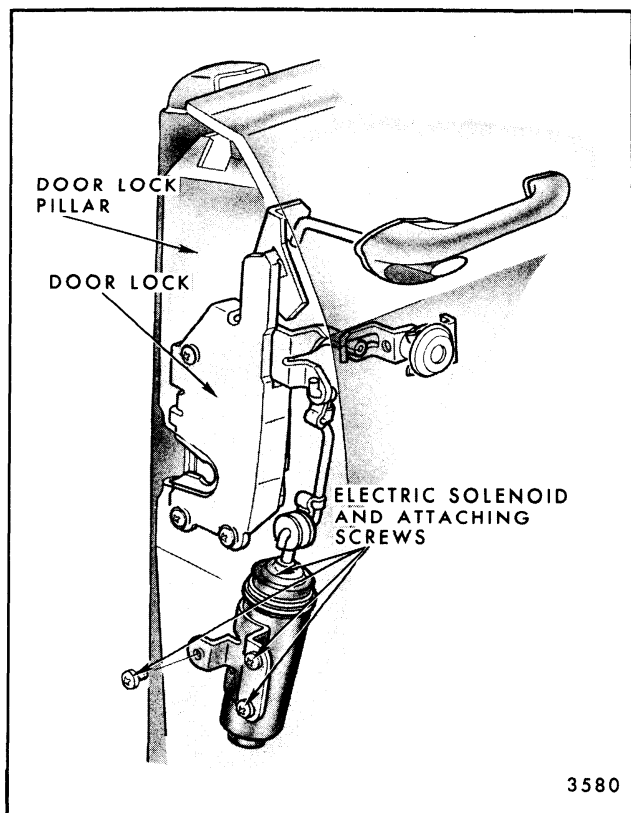

Fig. 5-34-Front Door Lock Electric Solenoid Installation
3. On front doors, remove lock pillar attaching screws, disconnect rod and remove through access hole (Fig. 5-34).